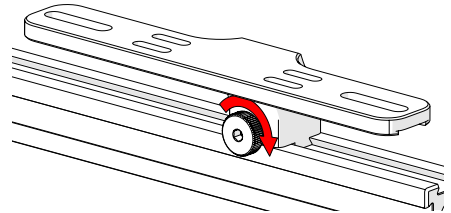

Fig. 190 - Tighten knob
2. Tighten the knob to lock the preamp bracket in place (Fig. 190).